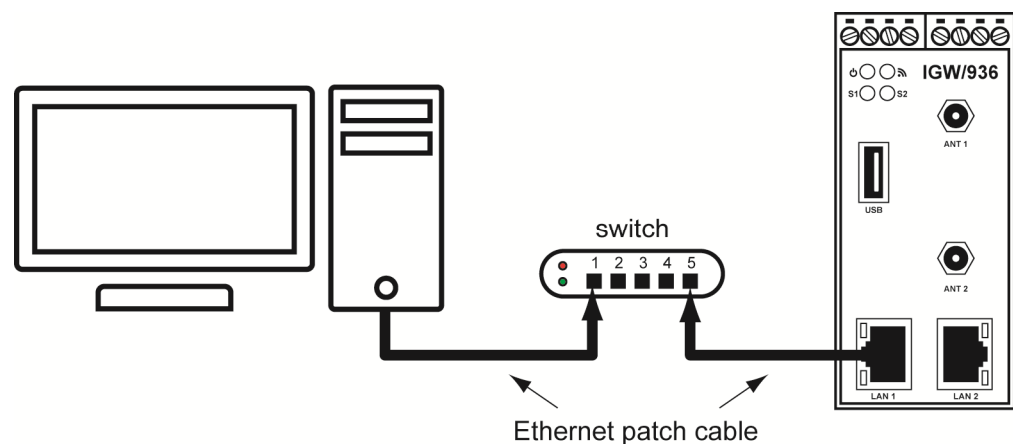

Figure 5: Ethernet link with hub or switch
- With two standard Ethernet patch cables over a hub or switch like shown in **fig. 5**.